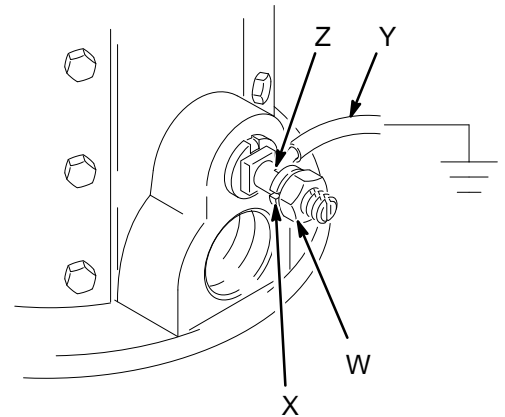

Fig. 1
- *Pump:* Use a ground wire and clamp. See Fig.1. Loosen the grounding lug locknut (W) and washer (X). Insert one end of a 12 ga (1.5 mm²) minimum ground wire (Y) into the slot in lug (Z) and tighten the locknut securely. Connect the other end of the wire to a true earth ground. For a ground wire and clamp, order Part No. 237-569.